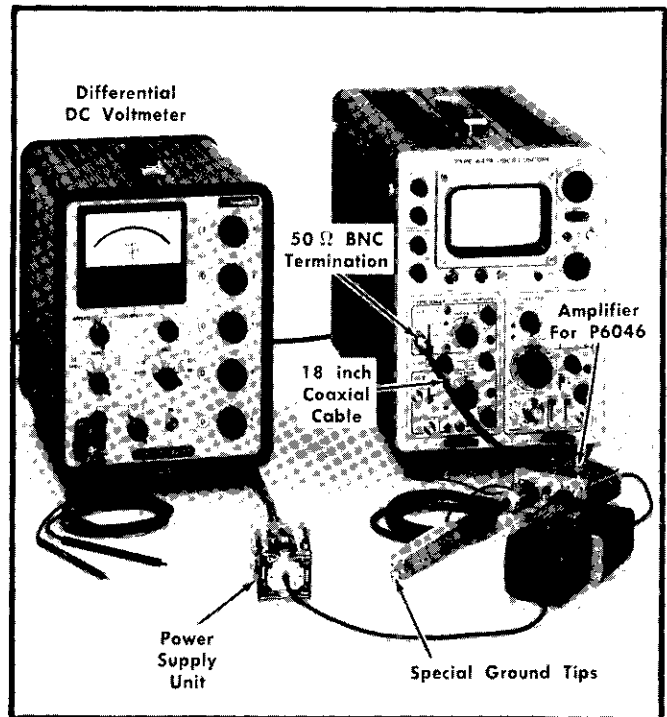

Fig. 6-22. Equipment setup for steps 2 through 4.
a. The equipment setup appears in Fig. 6-22.
a. The preliminary control settings apply. The equipment setup appears in Fig. 6-22.
c. Attach special ground tips (item 20) to the Probe's + and - tips.